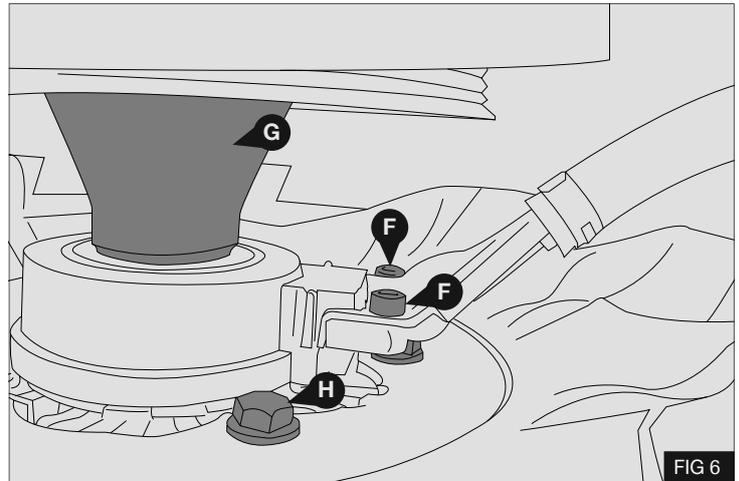

FIG 6
11. Refit the 6x securing bolts (H) securing the fan to the fan hub (G). Refit the bolts (F) securing the fan loom to the fan hub (G) - Fig 6